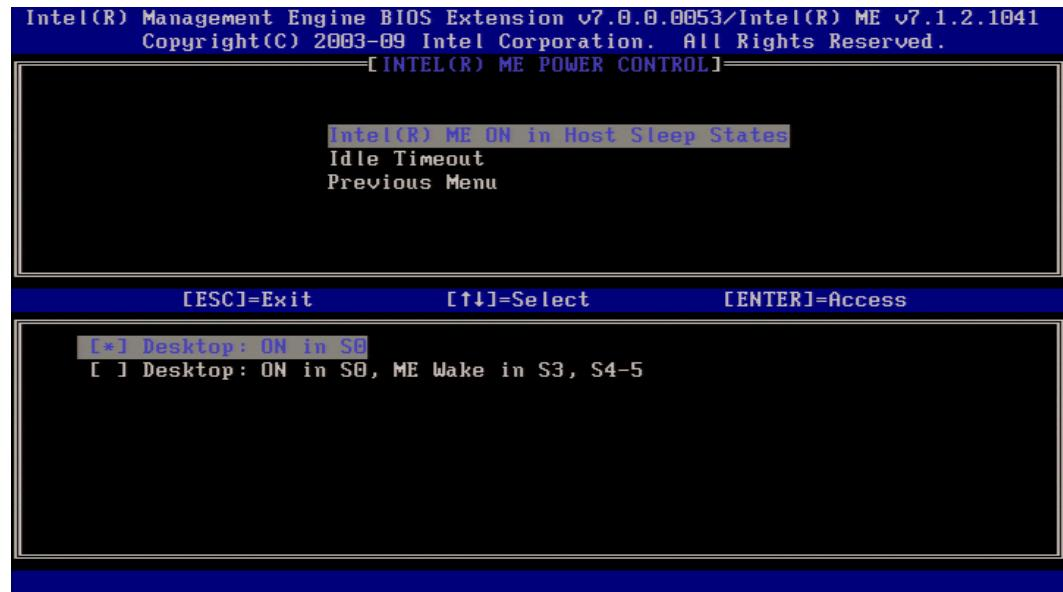

Figure 6. Intel ME Host Sleep States Screen
a. Intel ME ON in Host Sleep States (Figure 6).